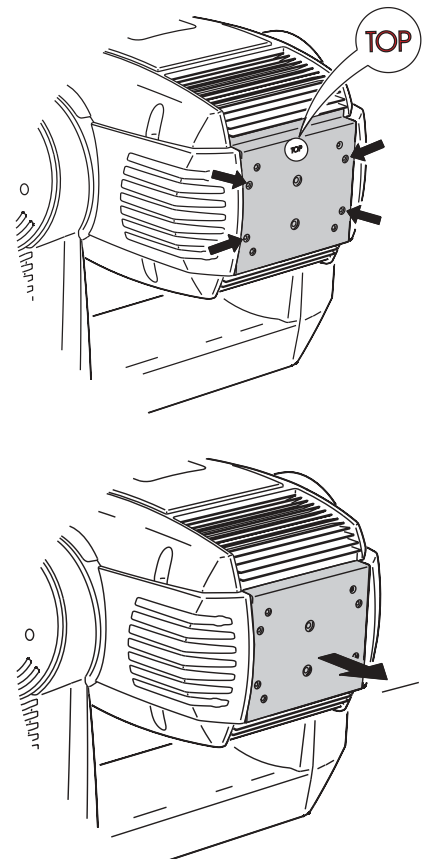

Figure 4: Lamp access
- 2 See Figure 4. Release the 4 quarter-turn fasteners marked with arrows on the rear plate. Pull the lamp assembly straight back as far as it goes and let it rest in place.